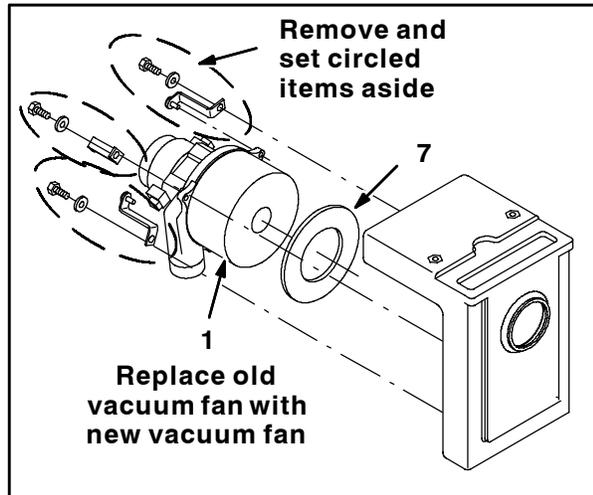

FIG. 1
1. Install the seal (2) onto the vacuum fan (1). Refer to Fig. 1.
2. Use saved hardware to install the new vacuum fan (1) onto the machine. Refer to Fig. 1.